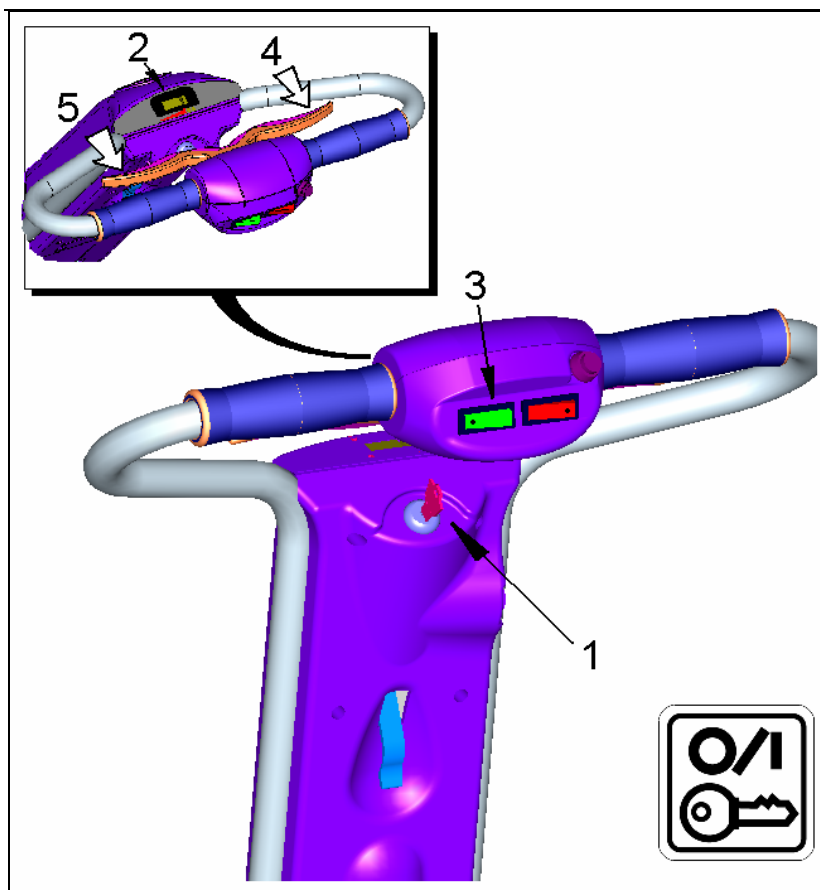

Figure 10
See **figure 10**:
- Put the ignition key into the key switch (1) and turn it clockwise to the position marked ON. The key will stay in this position.
- A light on your dashboard marked ON (2) should light up signifying the Caddy is ready to go. (see **figure 10**)
- Put the speed selector switch (3) in the slow driving mode (turtle).
- You can now drive forward by squeezing the right hand throttle lever (4). You can drive backwards by squeezing the left hand throttle lever (5). When you drive backwards, the horn will sound intermittently signifying you are driving backwards. The two throttle levers are connected.